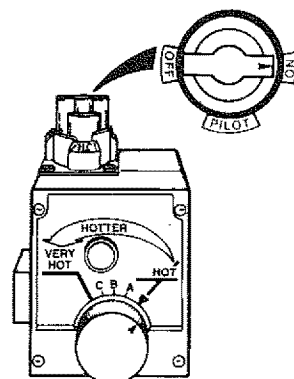

Figure 8
11. At arms length away, turn gas control knob counter-clockwise  to the full "ON" position. **WARNING Do not use gas control knob to regulate gas flow.** (Figure 8)